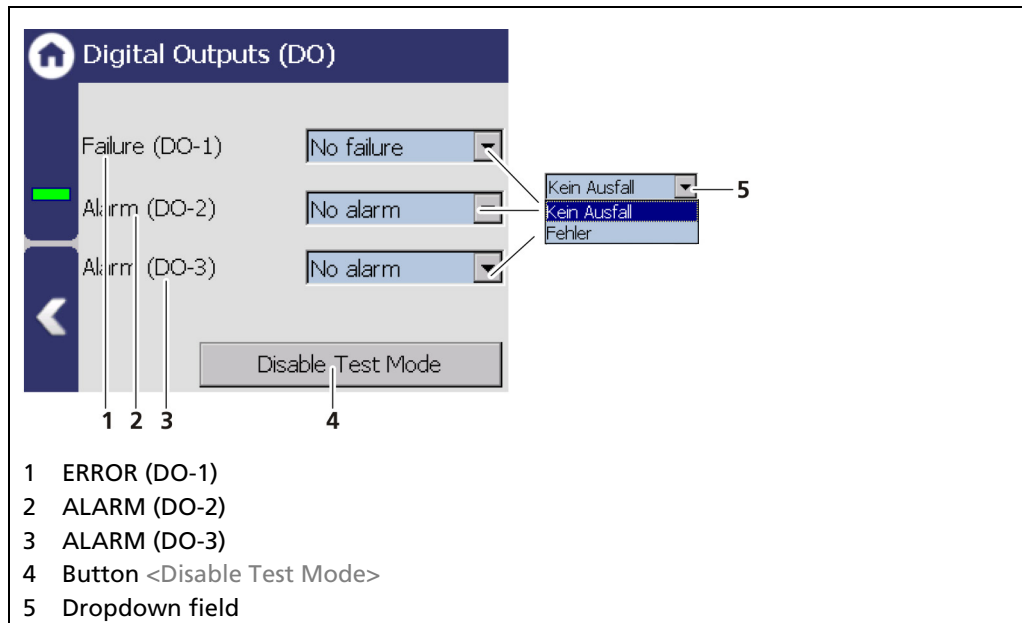

Fig. 128 Simulation Digital Outputs
1. Click on the dropdown field (Fig. 128, item 5) and select "FAILURE" or "ALARM" for the simulation.
2. Click on the <Disable Test Mode> button (Fig. 128, item 4) to stop the simulation.